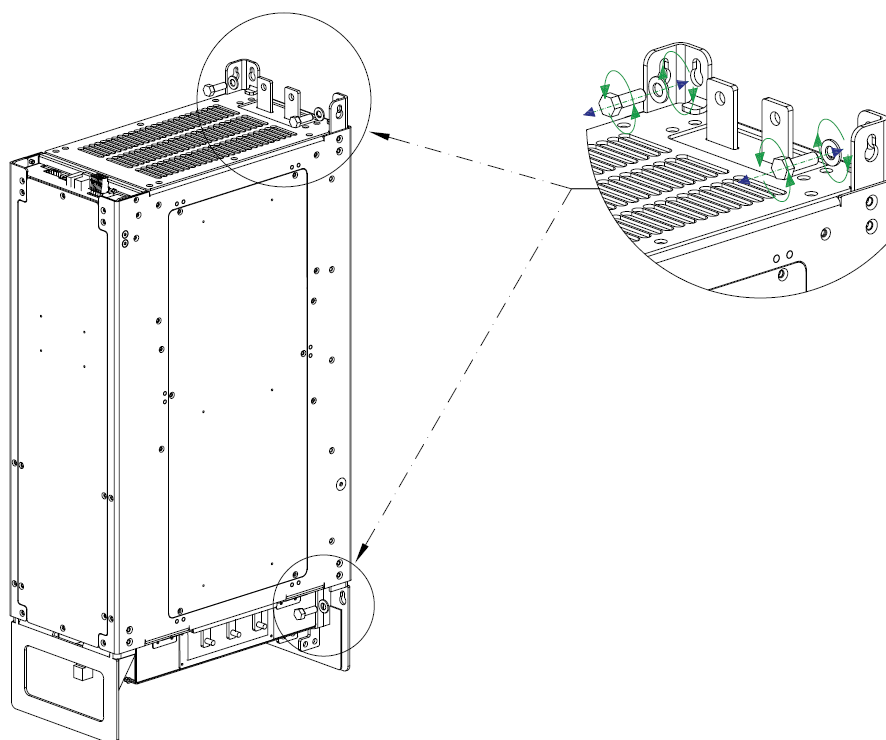

Fig. 3-9: SDI/SDA/SDS/SDF.3 eyelet and fixing holes
- Before moving the frame 3 kind module, pull out the eyelet on the upper-front side; to do so, user needs to unscrew the lateral screws which keep hidden these eyelets (Fig. 3-9)
- Fix the drive to the upper and lower rear side (Fig. 3-9) with a bolt and washer. Fasten enough to avoid losing grip due to vibration. Modules are designed to put them one next to each other.